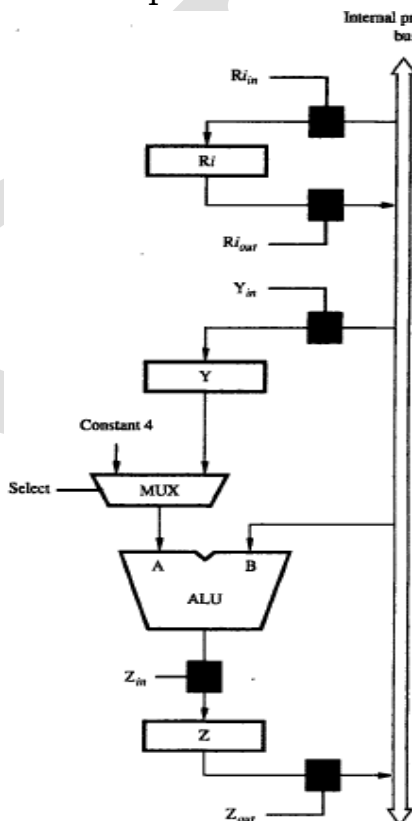

Figure 7.2 Input and output gating for the registers in Figure 7.1.
1. Enable the output of registers R_1 by setting $R_{1\text{out}}$ to 1 (Figure 7.2). This places the contents of R_1 on processor-bus.
PERFORMING AN ARITHMETIC OR LOGIC OPERATION(refer fig:7.2)